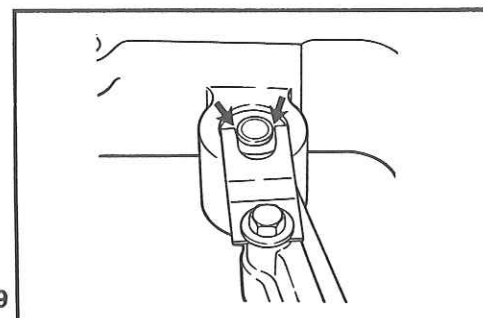

Fig. 29
3. Reassemble in reverse order. When tightening the capscrew, make certain the two spring tabs do not interfere with the sides of the master piston center raised portion. See Fig. 29. Torque the capscrew to 8 lbft. (11 N•m).